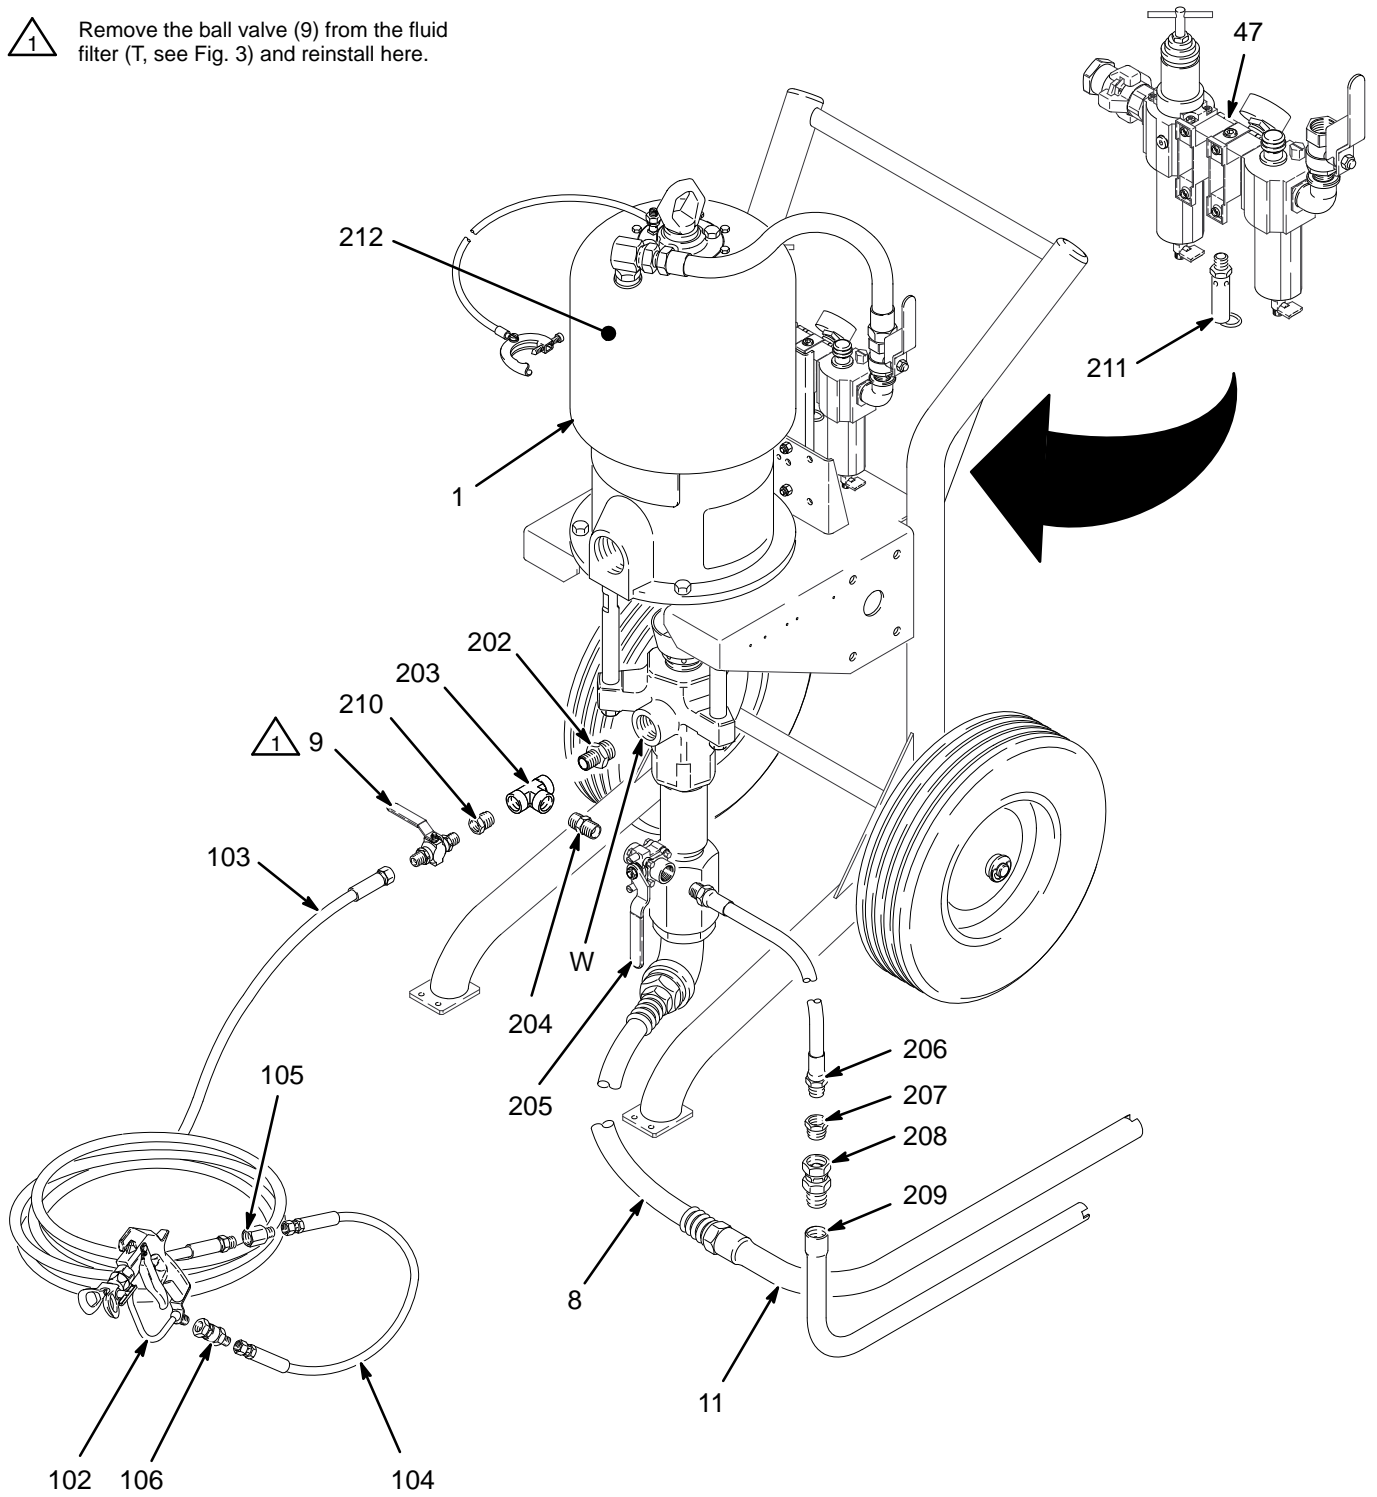

Fig. 4
3. See Fig. 4. Screw the adapter (202) into the pump's fluid outlet (W). Screw one end of the tee (203) onto the adapter (202).
4. Screw the 1/2 npt(m) x 3/8 npt(f) bushing (210) into the opposite end of the tee, and screw the nipple (204) into the branch of the tee.
5. Screw the ball valve (9, removed in step 2) into the bushing (210) so the valve handle points away from the bushing when opened.
6. Screw the fluid return line valve (205) onto the nipple (204), so the valve handle points away from the nipple when opened, then screw the fluid return hose (206) into the valve.
7. Screw the 3/4 x 1/2 npt bushing (207) onto the other end of the return hose (206). Screw the swivel adapter (208) into the return tube (209), then attach the swivel to the bushing (207).